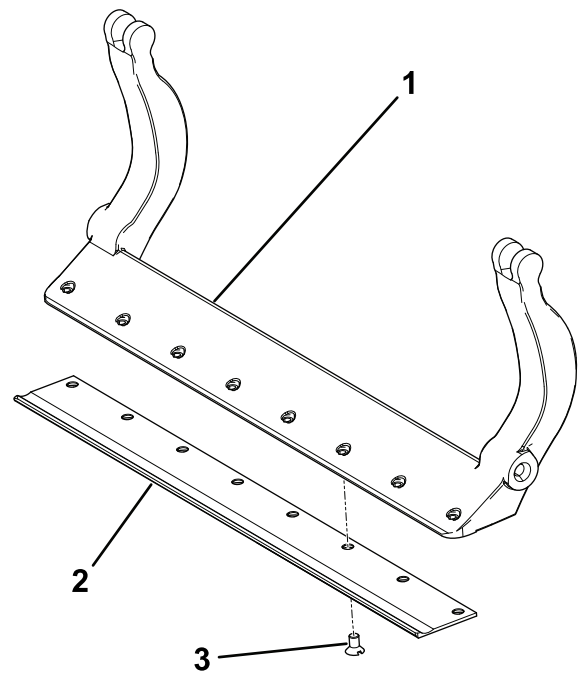

Figure 32
3. Apply anti-seize compound to the screws and install the bedknife to the bedbar as follows (Figure 32):